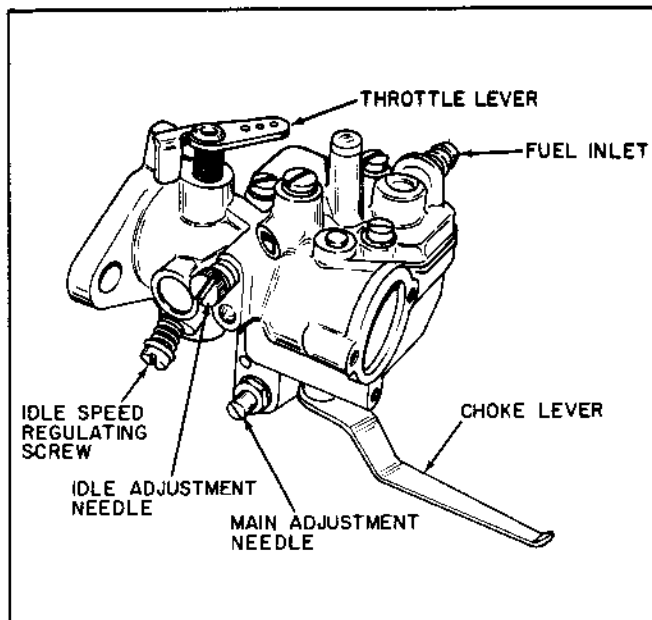

Figure 3-19. Tillotson MT Float Feed Type Carburetor
- (1) The carburetor illustrated in figure 3-19 is a typical Tillotson MT Series carburetor. Other models in MT Series have slight modifications from model shown, but each is adjusted in a similar manner.